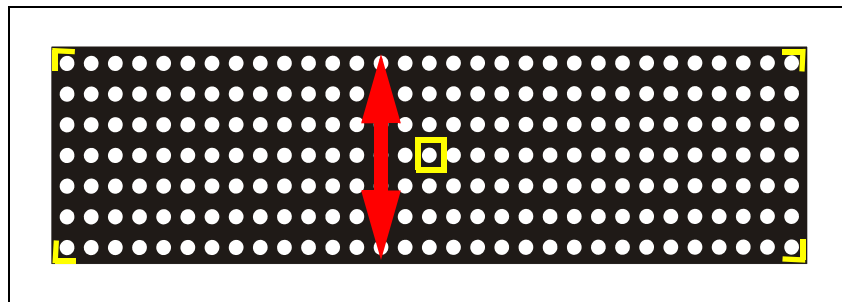

Figure 5-25. Adjust Y position of camera
13. Now use the graphical support pattern to adjust the Y position of the calibration plate. See Figure 5-25.